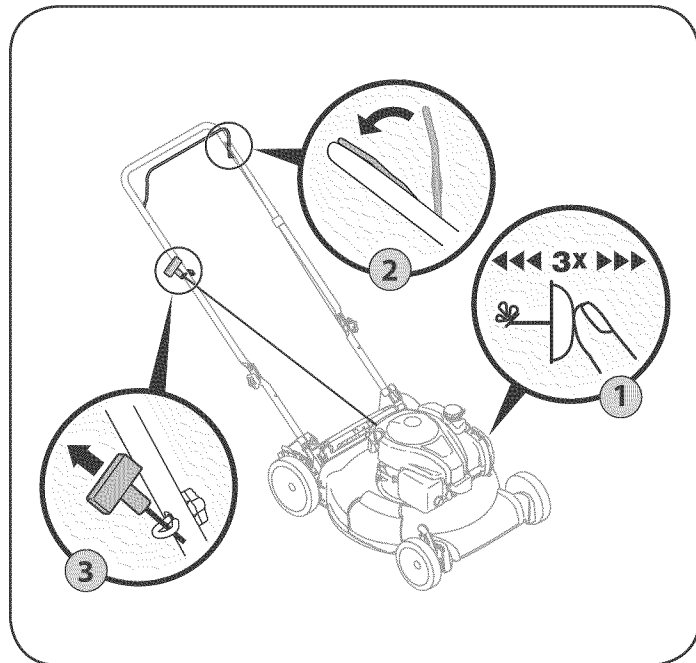

Figure 11
1. Push the primer three times. See Figure 11. Do not prime to restart a warm engine.
3. Holding these two handles together firmly, grasp recoil starter handle and pull rope slowly until resistance is felt, then pull with a rapid, continuous, full arm stroke. See Figure 11. Keeping a firm grip on the starter cord handle, let the rope rewind slowly. Repeat until engine cranks. Let the rope rewind each time slowly.